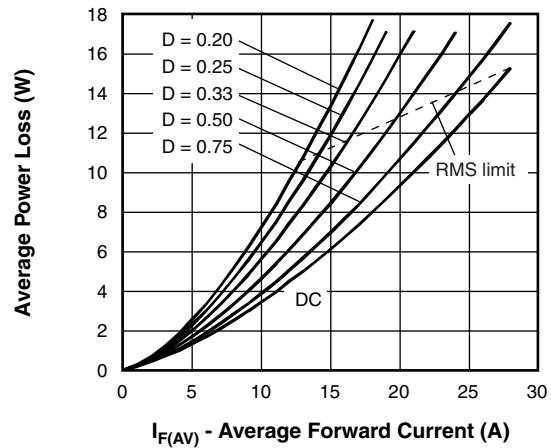

Fig. 6 - Forward Power Loss Characteristics (Per Leg)
- (1) Formula used: $T_C = T_J - (P_d + P_{d_{REV}}) \times R_{thJC}$;
- P_d = forward power loss = $I_{F(AV)} \times V_{FM}$ at $(I_{F(AV)}/D)$ (see fig. 6);